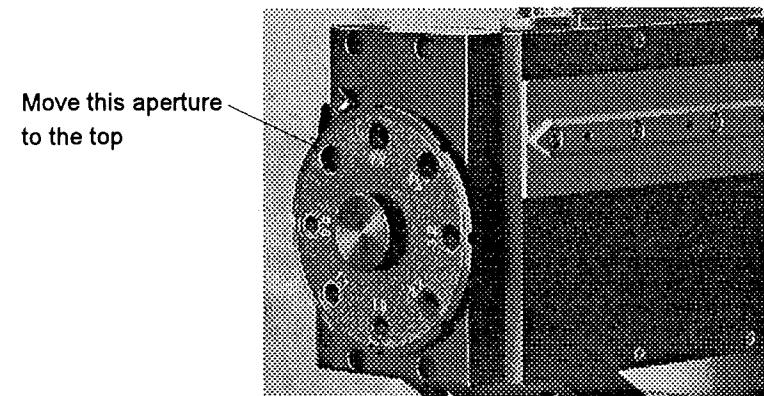

Figure 7. Aperture wheel #1 (on input collimator)
- a) Turn aperture wheel #1 (Figure 7) so that the largest aperture is at the top. (This aperture is uncalibrated.)